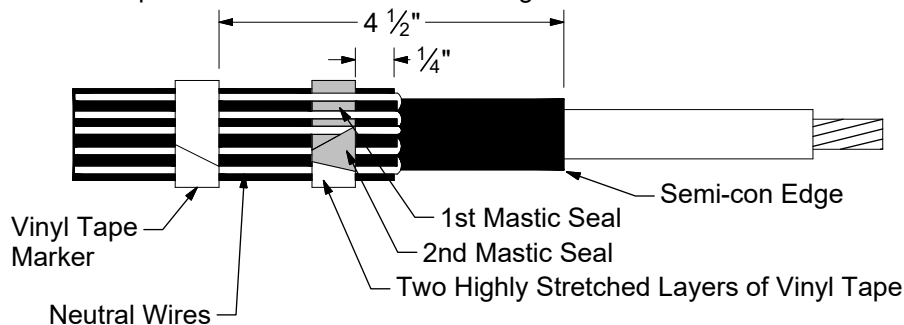

Figure 3
4. Bend neutral wires back over applied mastic, secure the wires to the cable jacket with vinyl tape. The tape should be placed a distance of 4-1/2" from the edge of the semi-con. See Figure 3. NOTE: The vinyl tape serves as a marker tape, so position carefully.
5. Select a second mastic strip from the kit and remove the white release liners. Apply a second single wrap of mastic over the neutral wires and the previously applied mastic. Cut off excess. See Figure 3.
6. Compress the neutral wires into the mastic. Over-wrap the mastic strips with two highly stretched layers of vinyl tape. Be sure that all exposed mastic is covered. See Figure 3.
4. Bend neutral wires back over applied mastic and secure to cable jacket 4-1/2" from the edge of the semi-con. Use vinyl tape to secure the wires. This tape will also be used to position the terminator, so the location is critical. See Figure 3.
5. Select the second mastic strip from the kit and remove the white release liners. Apply a second mastic band over the neutral wires and the previously applied mastic strip. Cut off excess. See Figure 3. Compress the neutral wires into the mastic by over-wrapping the strips with two highly stretched layers of vinyl tape. Be sure to cover all exposed mastic. See Figure 3.